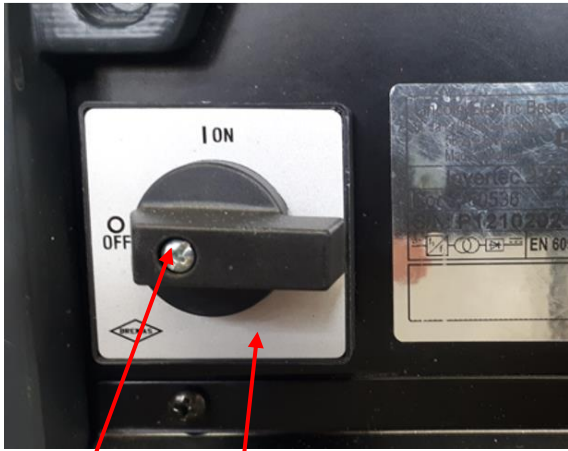

Figure 37
3. Locate the ON/OFF switch on the backside of the machine. See **Figure 37**
4. Using the PH02 screwdriver remove the screw (**A**) and remove the ON/OFF switch knob. See **Figure 37**.